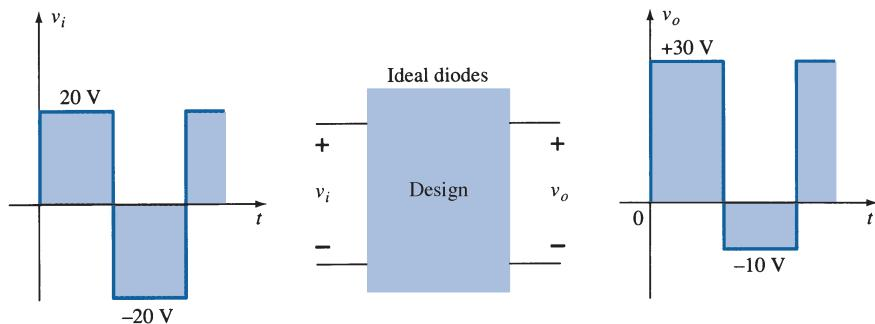

FIG. 184
- *40. Design a clamper to perform the function indicated in Fig. 184.